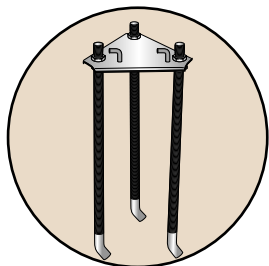

Fig 1,
2. Assemble the hinging plate onto the 3 foundation bolts with the flagstaff hinging lugs uppermost and lock into position with the 3 flat nuts as supplied. (See Fig 1)